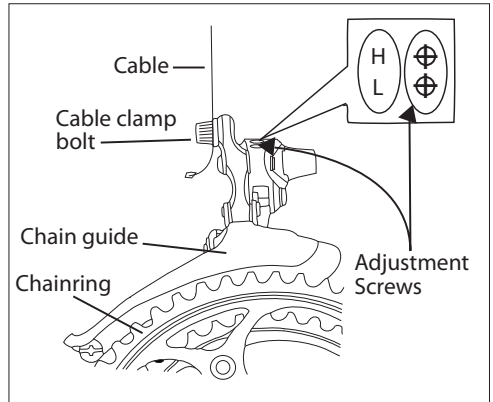

Fig. 54: Front Derailleur Adjustments.
2. Decrease the tightness of the cable clamp bolt (Fig. 54) until the cable is free.